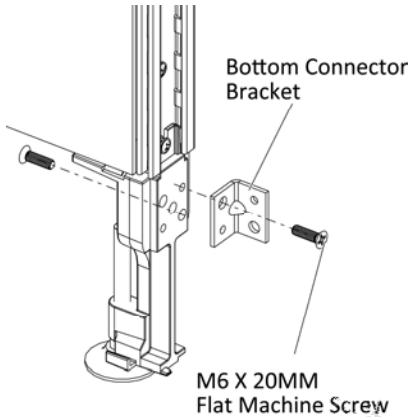

Figure 2
- 3. Securely fasten the bottom corner bracket to panel leg with two M6 X 16MM Flat Machine Screws, (Figure 2).